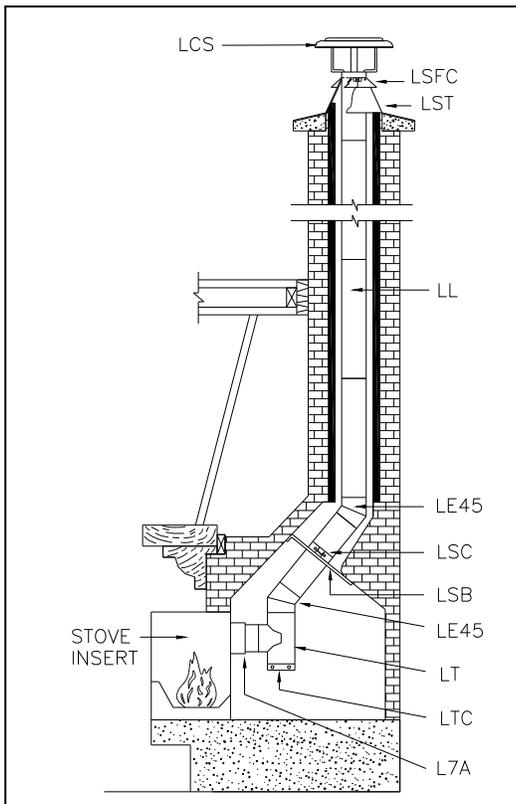

Fig.9 – Existing fireplace relining installation
- **EXISTING FIREPLACE (fig.9)**